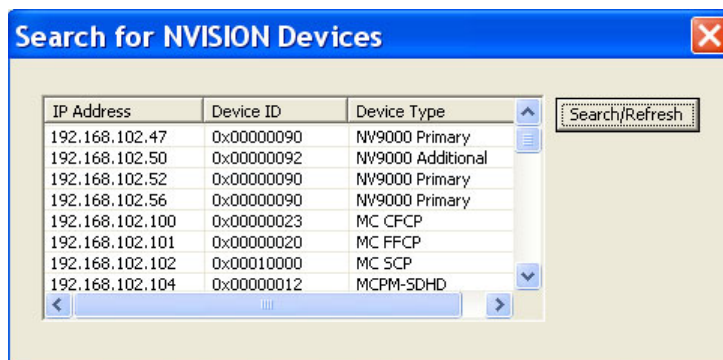

Figure 14-1. Search for NVISION Devices Dialog Box
- 2 From the menu bar, select 'Tools > Search for Miranda Device'. The 'Search for Miranda Devices' dialog box appears, as shown in Figure 14-1.